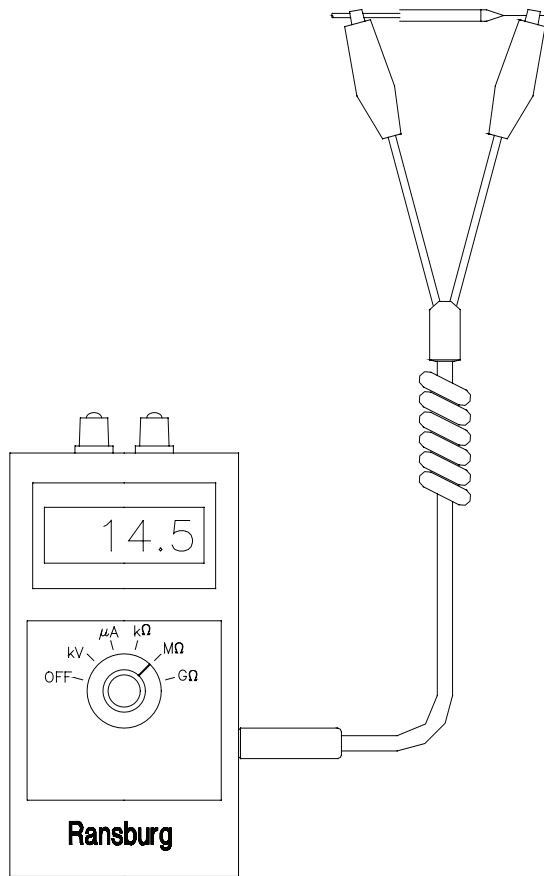

Figure 4: Measuring Electrode Resistance
3. For resistance checks, set the meter to $M\Omega$ scale (see Figure 4). Attach one alligator clip to the electrode wire of a 70430-XX screwed onto a needle shaft (or similar component). Attach the other lead to the shaft of the needle shaft (or other end of a similar component). The electrode reading should be approximately $14.5 M\Omega$ to $19M\Omega$.